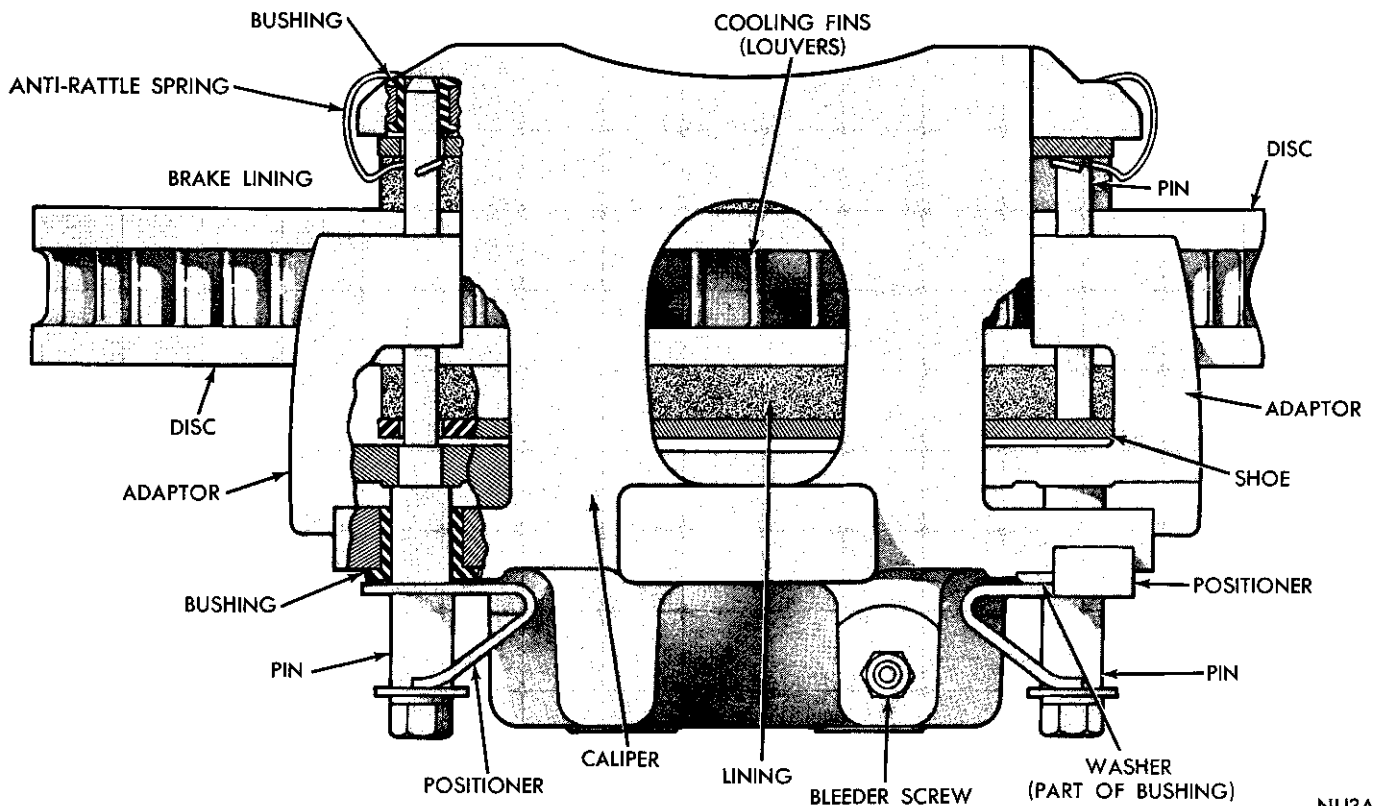
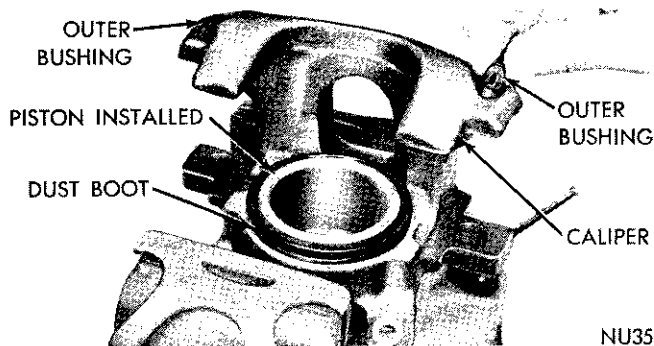

Fig. 3—Floating Caliper Assembly (Sectional) Shoe Mounting
Fig. 18—Installing Outer Bushings
The single piston caliper assembly floats through four rubber bushings on two steel guide pins threaded into the adaptor. Two of the bushings are inserted in the outboard portion of the caliper and two on the inboard side (Fig. 3). Four machined abutments on the adaptor, position and align the caliper, fore and aft. Two positioners installed over the guide pins, control the movement of the caliper along with the piston seal, and assists in maintaining proper shoe clearance and are also required to hold the inner bushing in place.
(1) Slowly and carefully push piston back into bore until it is bottomed. Watch for possible reservoir overflow. See Step 9 of "Disc Brake Service Precautions".
(2) Install new inner guide pin bushings in caliper with flanged end on inboard side (Fig. 3). Compress flanges of outboard bushing in fingers and work into position in hole from the outboard side of caliper (Fig. 18).
into position in hole from the outboard side of the caliper (Fig. 18). Press **IN** on bushing, using finger tips or small plastic stick (Fig. 18) until seated. Be sure flanges extend over caliper casting evenly on both sides. Install bleeder screw.